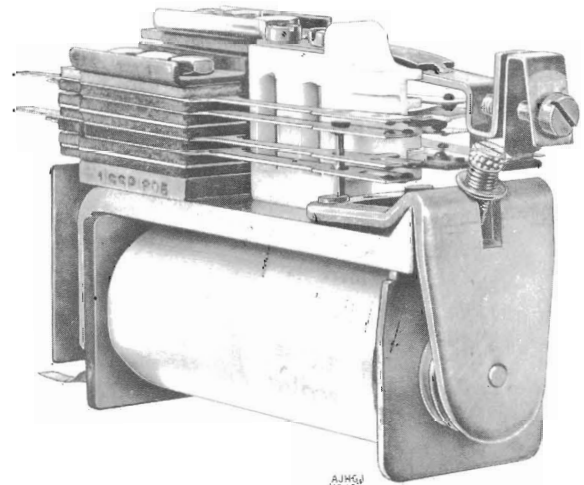
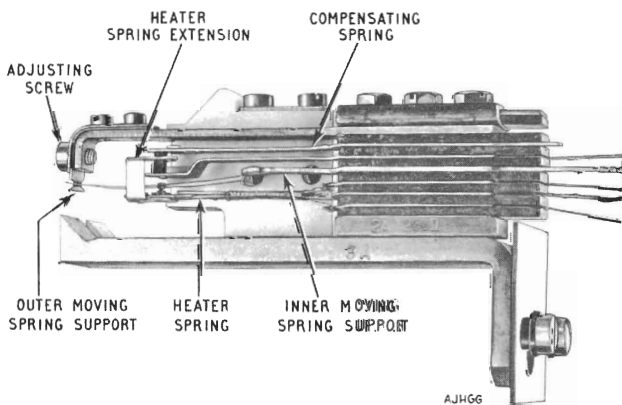

FIG. 3.—COMPOSITE RELAY WITH MARK 1A THERMAL SPRING-SET
FIG. 1.—MARK 1 THERMAL SPRING-SET
**3. Marks 1 and 1A.**—An improved thermal spring-set is now available and is known as the 'Mark 1A', the earlier spring-set design being referred to hereafter as 'Mark 1'. Figs. 1 and 2 show Marks 1 and 1A respectively, and Fig. 3 shows a composite relay with a Mark 1A thermal spring-set.